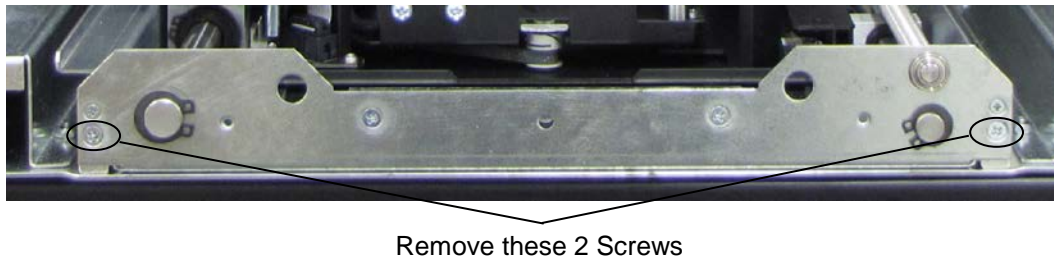

Figure 7-10 The Carriage Assembly Screws
4. There are only two screws on the front of the Carriage Assembly that secure it to the RLS. Use a No. 2 Phillips screwdriver to remove the both screws. They are the lower and larger pair as shown in Figure 7-10.
3. Use a No. 2 Phillips screwdriver to replace the two screws that were removed earlier. See Figure 7-10.